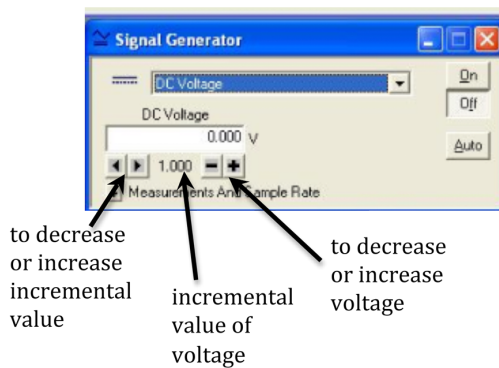

Figure 7: Signal generator window
- 6 Set the signal generator to DC voltage. See Fig. 7.
- 8 Set the incremental value to 0.5. See Fig. 7.